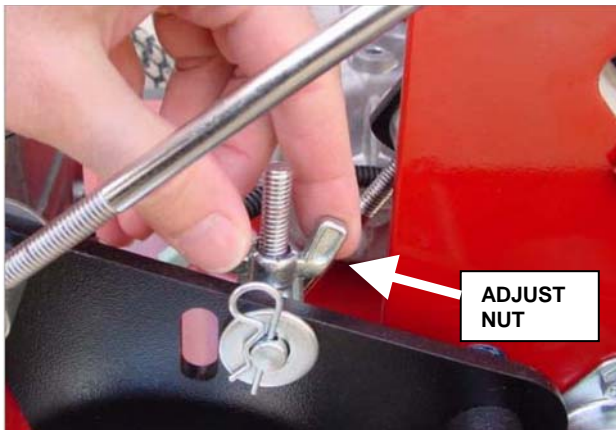

FIGURE 6.1
3. Turn nut on lower traction rod clockwise to increase tension. See Figure 6.1.